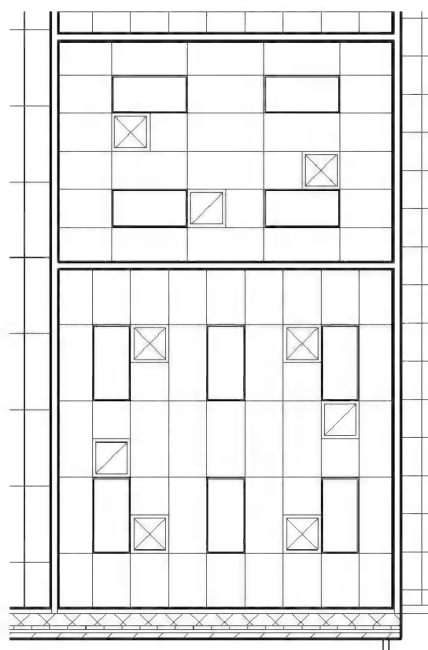

FIGURE 7-3.6 RCP; mechanical
12. Place the diffusers as shown in Figure 7-3.6.
14. Place the registers as shown in Figure 7-3.6.